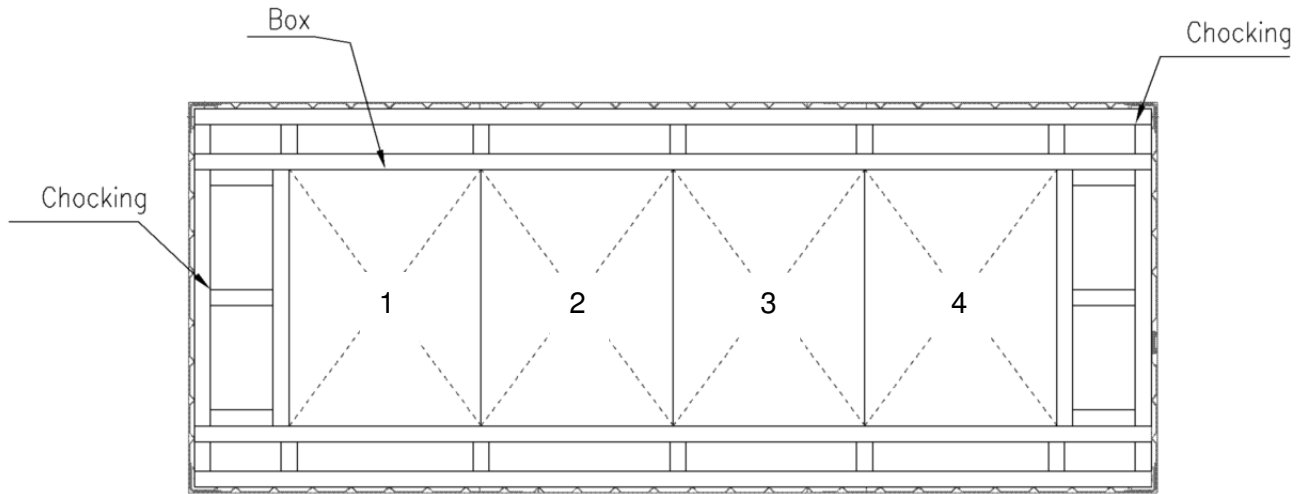

Figure 1
- Suitable blocking for the container as shown in figure 1. Approx dimensions are as follows (L x W x H):
Place the Dolav boxes into the container. The boxes shall sit up against the container walls as shown in in Figure 1. Note the lifting straps that are used to lift the boxes into the container shall remain with the boxes to enable removal of the boxes at the receiving facility.